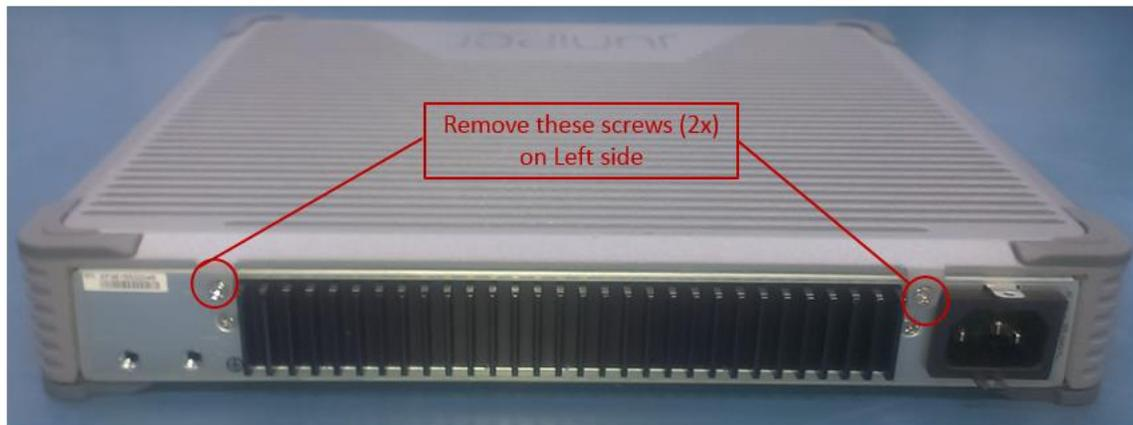

Figure 3-2: Rear side screws
4. Remove two(2x) screws from left side of chassis (Figure 3-2)